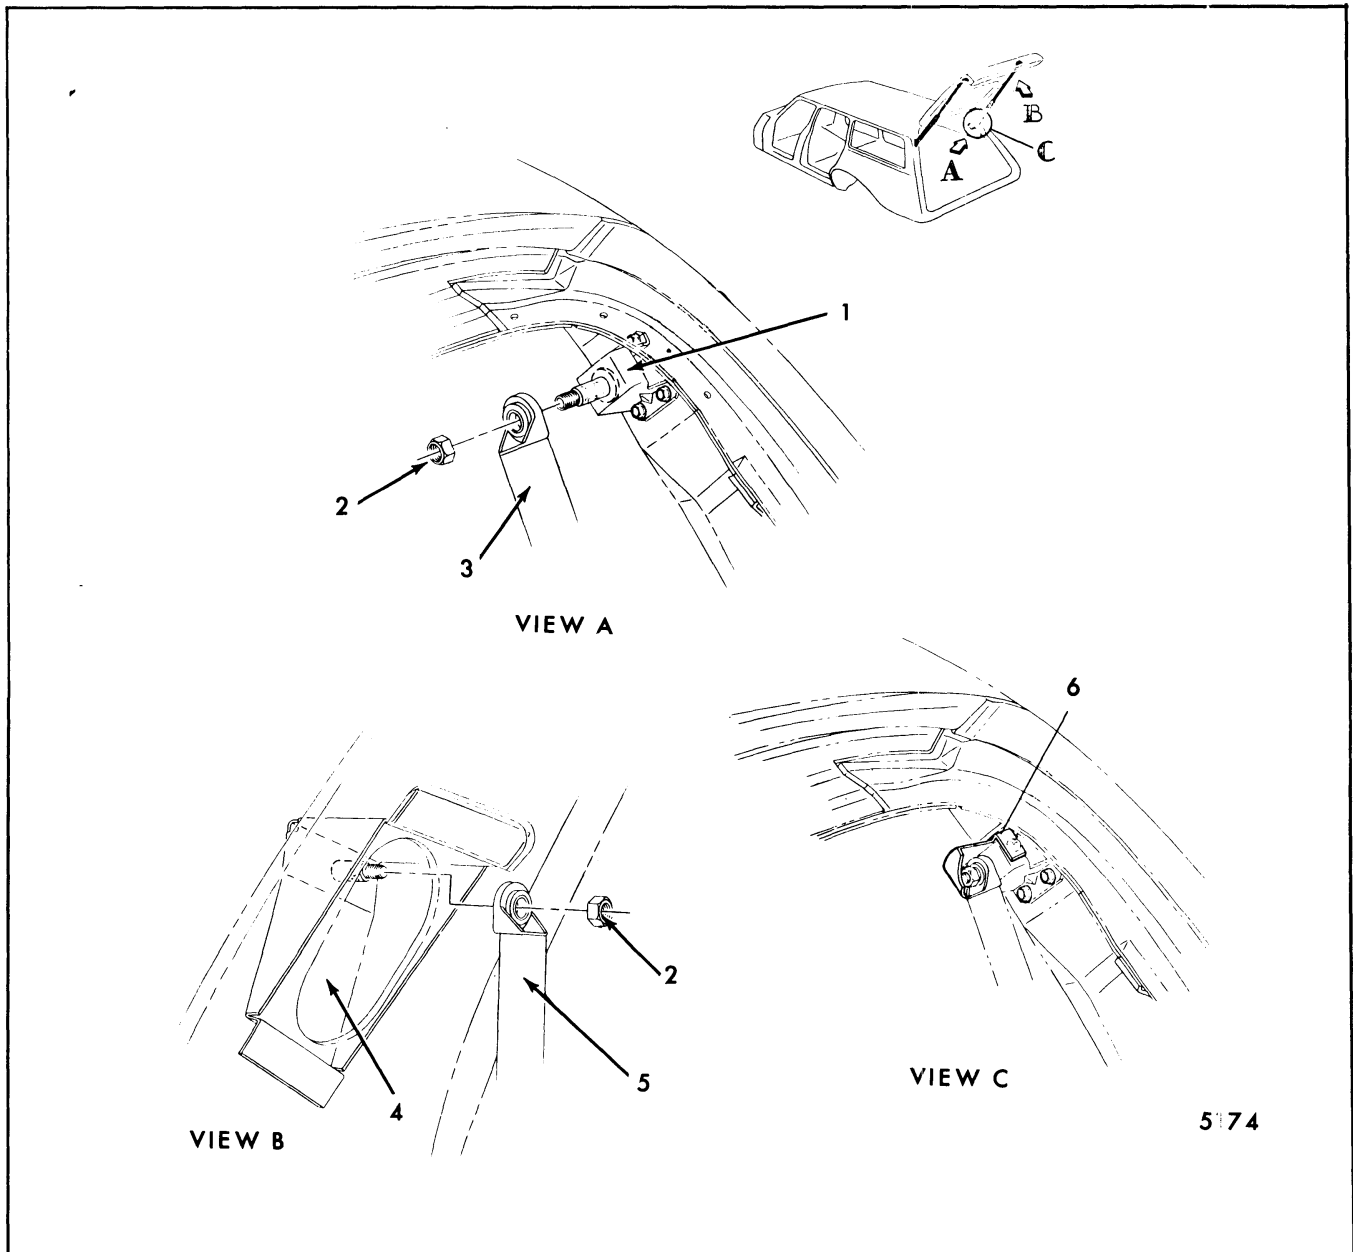

Fig. 7-71-Counterbalance Support Assembly Attachment
3. Remove pillar anchor plate cover screws and slide cover from pillar and/or plate (Fig. 7-71).
4. While helper supports gate in fully open position, remove counterbalance support assembly attaching nut and disengage from tail gate and pillar anchor plate (Fig. 7-71).
A shoulder bolt welded onto a bracket forms the anchor plate. The anchor plate is bolted to back body pillar near the roof at each side of the opening (View A, Fig. 7-71). A metal cover is secured by screws to the pillar anchor plate after the counterbalance support assembly is attached. The function of the anchor plate cover is to entrap the counterbalance support assembly if the anchor plate shoulder bolt shears or attaching torque-tight nut works loose (Fig. 7-71).